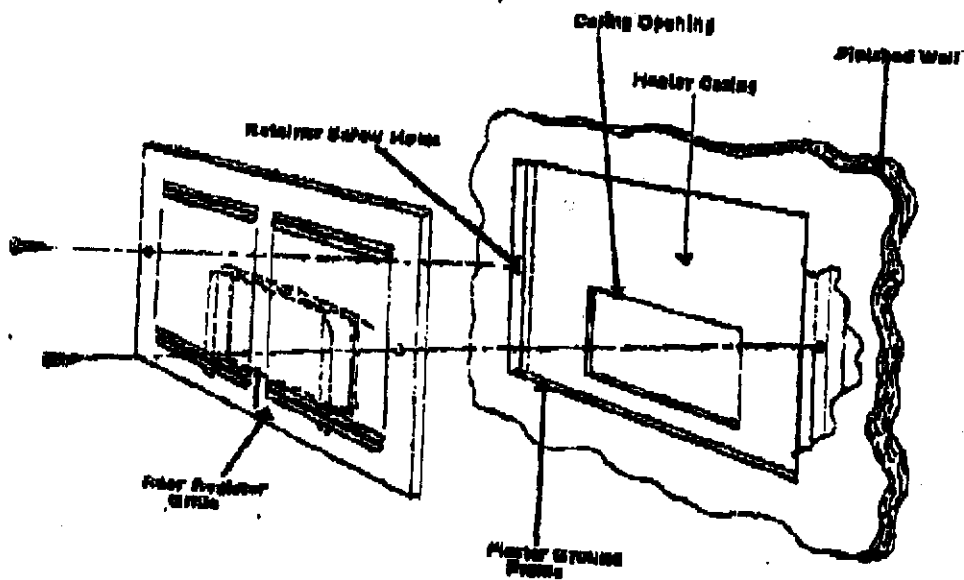

FIG. 4
- STEP 4.** After furnace is installed, attach rear register grille as shown in Figs. 4 & 5 by insertion over plaster ground and attach with sheet metal screws, provided.